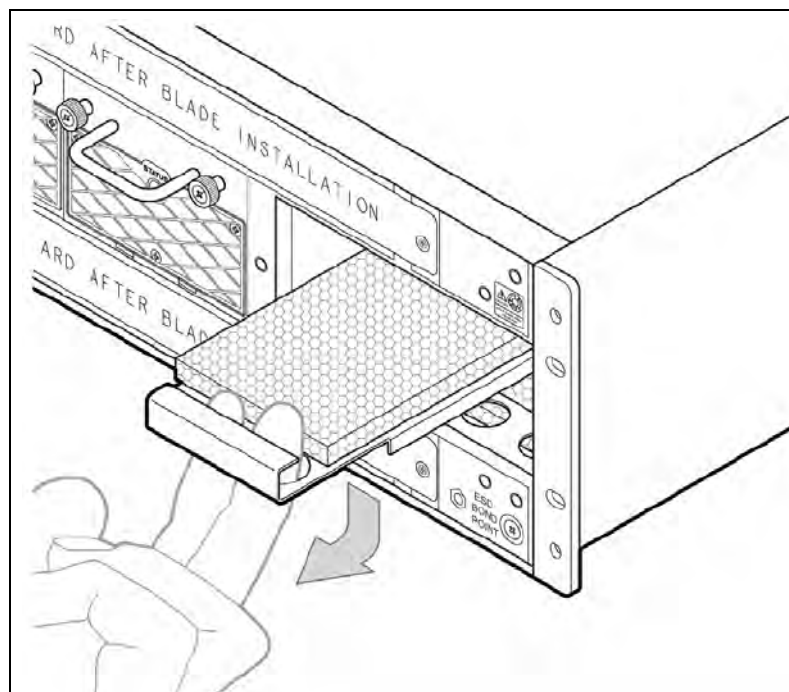

Figure C.10 - Top Air Filter Frame Removal
6. Pull the frame carefully out of the chassis (**Figure C.10**).